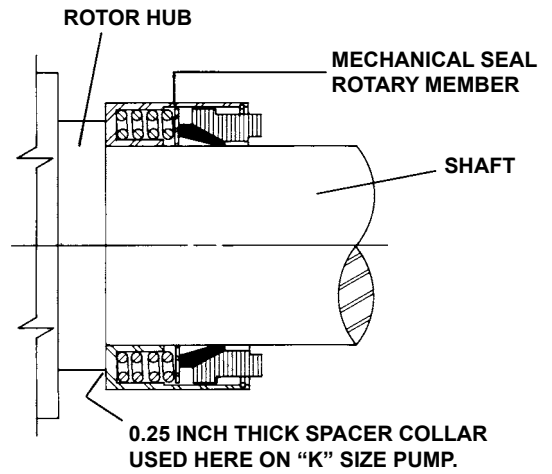

FIGURE 14
- Place the tapered installation sleeve (furnished with H, HL, K, KK, L, LQ and LL size replacement mechanical seals) on the shaft. Refer to Figure 13. Coat the inner diameter of the seal rotary member, tapered installation sleeve and the shaft with a generous quantity of non-detergent SAE 30 weight oil. Place the rotary member on the shaft over the sleeve and against the hub of the rotor. Refer to Figure 14.